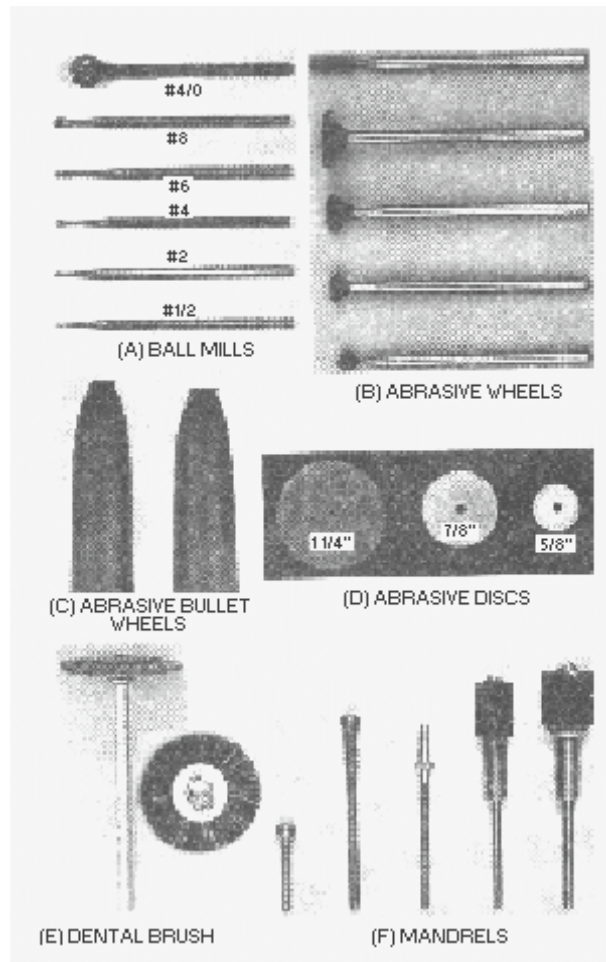

Figure 2-6.—Rotary-drive machine accessories. BALL MILLS
The accessories used with the rotary-drive tool are shown in views (A) through (F) of figure 2-6. Abrasive ball mills, wheels, discs, and brushes are either premounted on mandrels or can be mounted by the technician on the mandrels provided. These attachments are used for sanding and smoothing repaired areas, drilling holes, removing conformal coatings, and repairing burned or damaged areas. A chuck-equipped handpiece allows it to accept rotary tools with varying shank sizes.